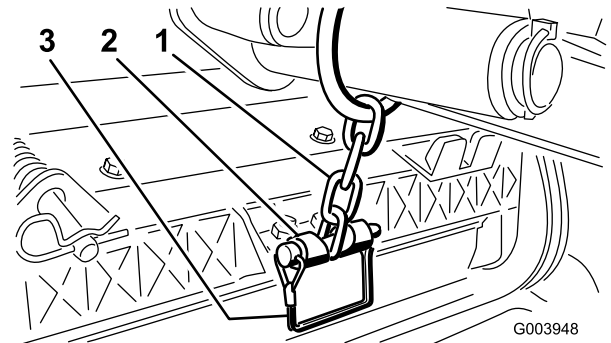

Figure 12
12. Secure the lift-arm chain to the chain bracket with the snapper pin (Figure 12). Use the number of chain links described in the *Operator's Manual* of the cutting unit.